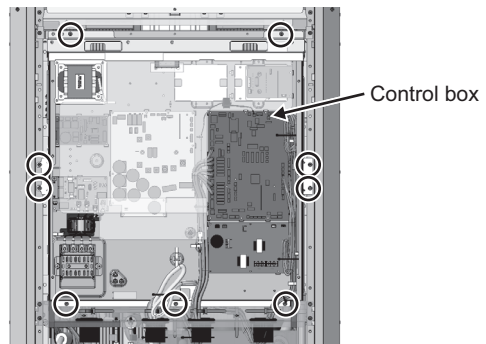

Fig. 26
(3) Remove the control box. (Nine screws: Fig. 26)